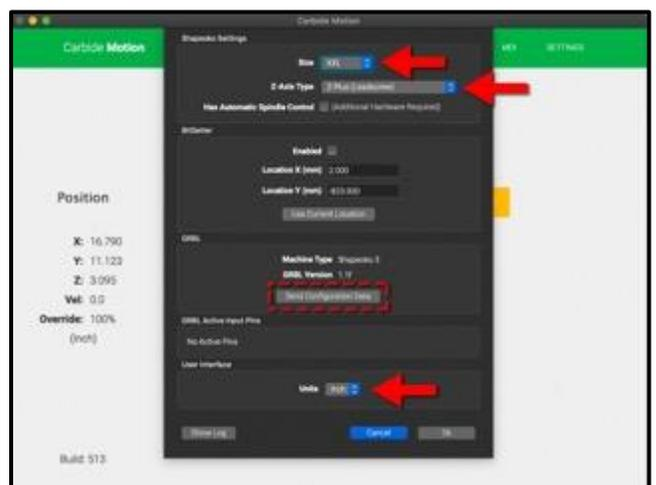

Figure 13-3
2. Choose “XXL” from the **Size** dropdown list, “Z-Plus (Leadscrew)” from the **Z-Axis Type** dropdown list, and “Inches” from the **Units** dropdown list. See *Figure 13-3*.
3. Click the **Update Shapeoko Configuration** button in the middle of the dialog window. See *Figure 13-3*.